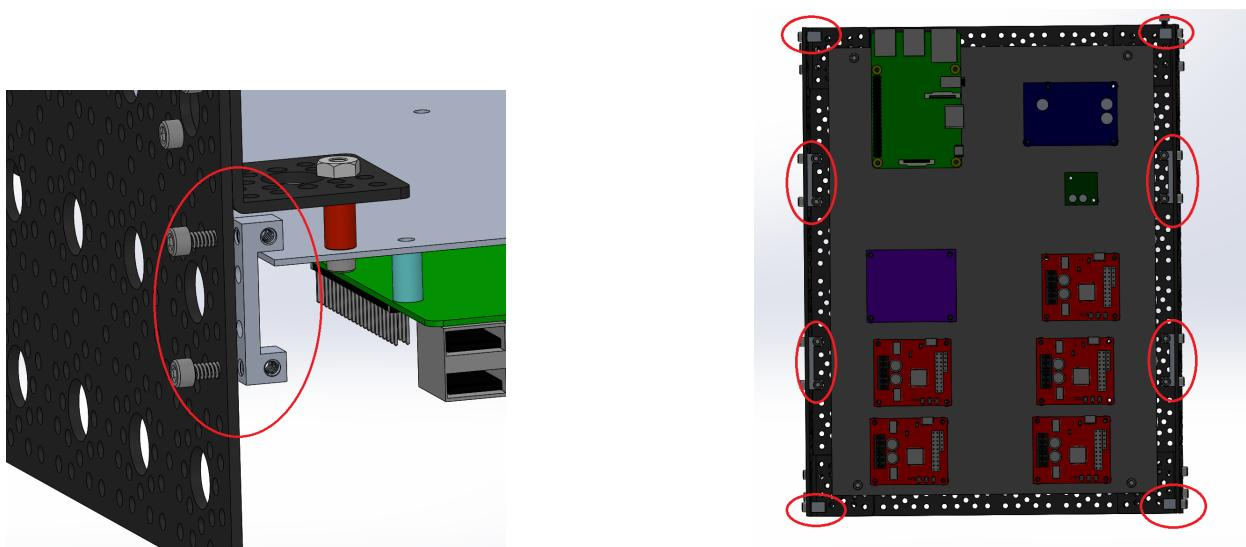

Figure 11: Dual Side Mount A locations
- 1. Attach the Dual Side Mounts:** Mount Dual Side Mounts A **S17** using screws **B1** in the locations shown in Figure 11.